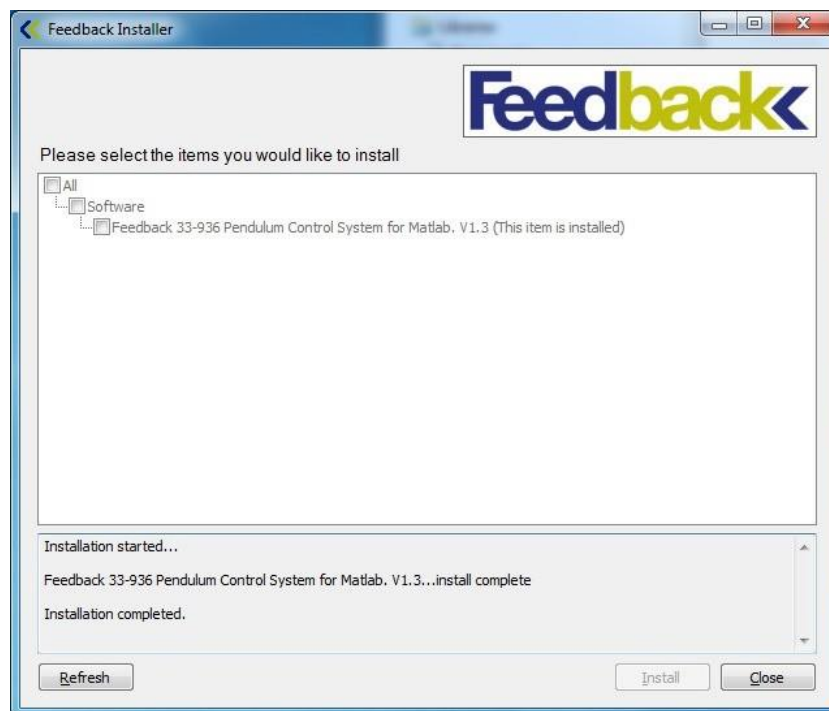

Figure 12 Program Installation Manager window
7. When software is installed the 'Program Installation Manager' will show the software is installed (Figure 12). Click 'Close' the installation manager.